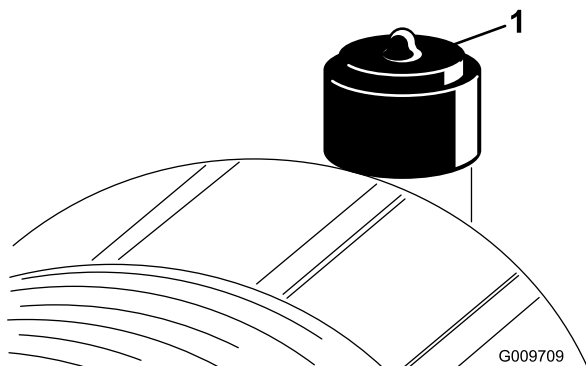

Figure 33
Service the air-cleaner filter only when the service indicator (Figure 33) requires it. Changing the air filter before it is necessary only increases the chance of dirt entering the engine when the filter is removed.
8. Reset the indicator (Figure 33) if it shows red.